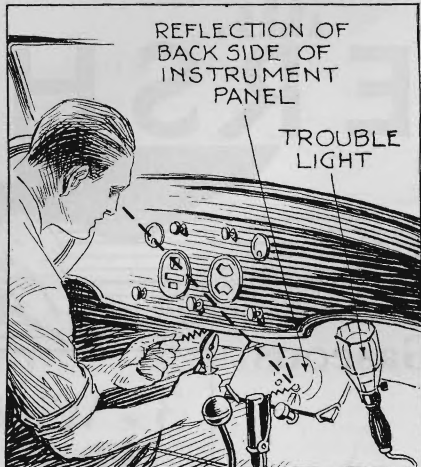

Fig. 1. Mirror can be used as shown when repair work is being done on dash instruments.
**A**LMOST the most awkward place around a car to do work is back of the instrument panel. Repairing the wiring of some of the dash instruments can be done quite easily with the aid of a mirror placed as shown in Fig. 1. Any convenient small mirror will do. Support it so that it will reflect to your eyes the image of the parts on which you want to work while you are comfortably seated in the front seat. Place a trouble light where it will illuminate the work.